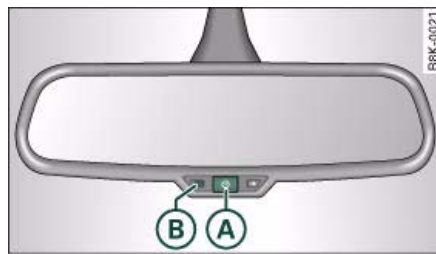

Fig. 68 Anti-dazzle interior mirror: On/off button with indicator lamp
- Press button (A) ⇒ fig. 68 - the indicator lamp (B) will go out.